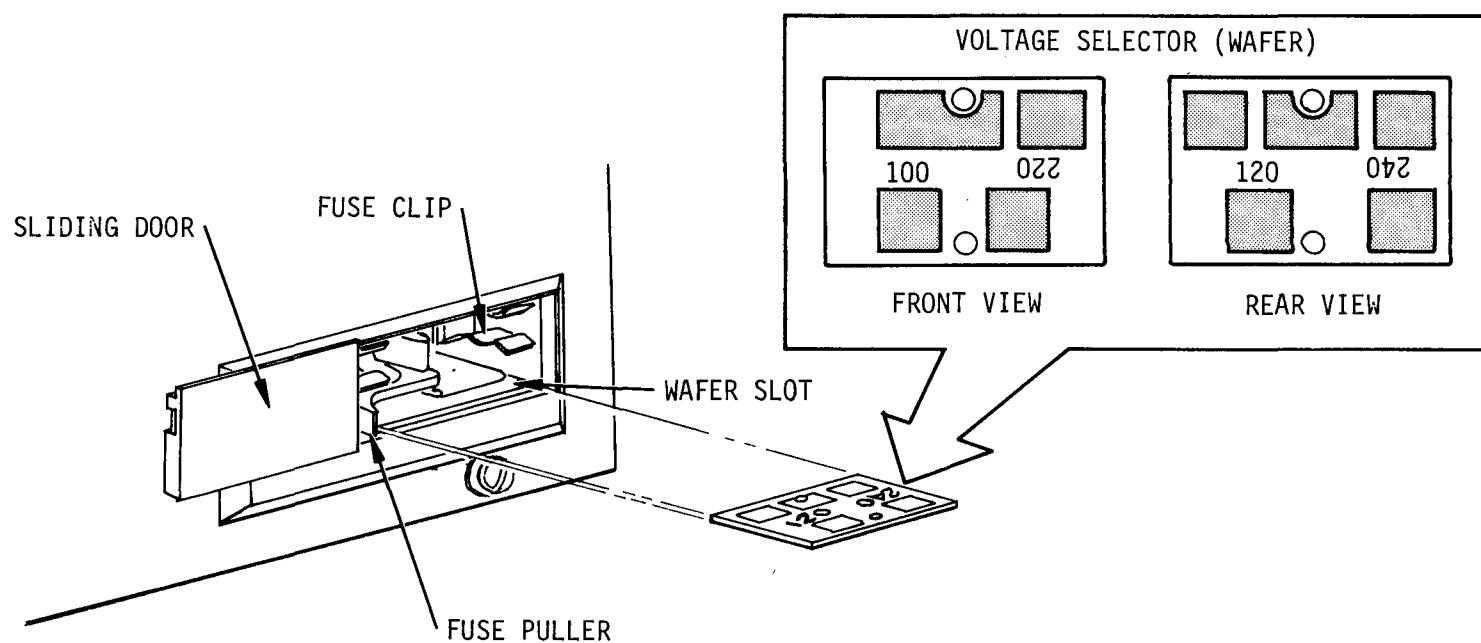

Figure 2-2. Disc Drive Voltage Selection
2. To select the correct voltage range to match the ac input voltage, locate the Voltage Selection PCB at the rear of the power supply mounted on drive frame (Figure 2-2).